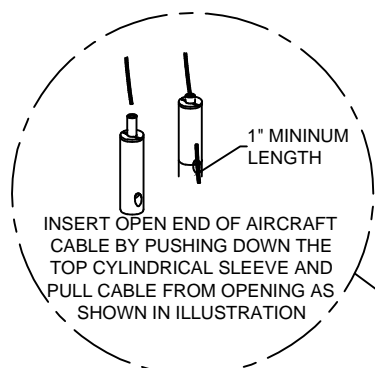

Figure 3
4. Attach the loose end of the aircraft cables (ball end) to the cable gliders - see Figure 3
4. Lift the fixture and attach the loose end of the aircraft cables to the cable gliders - see Figure 3